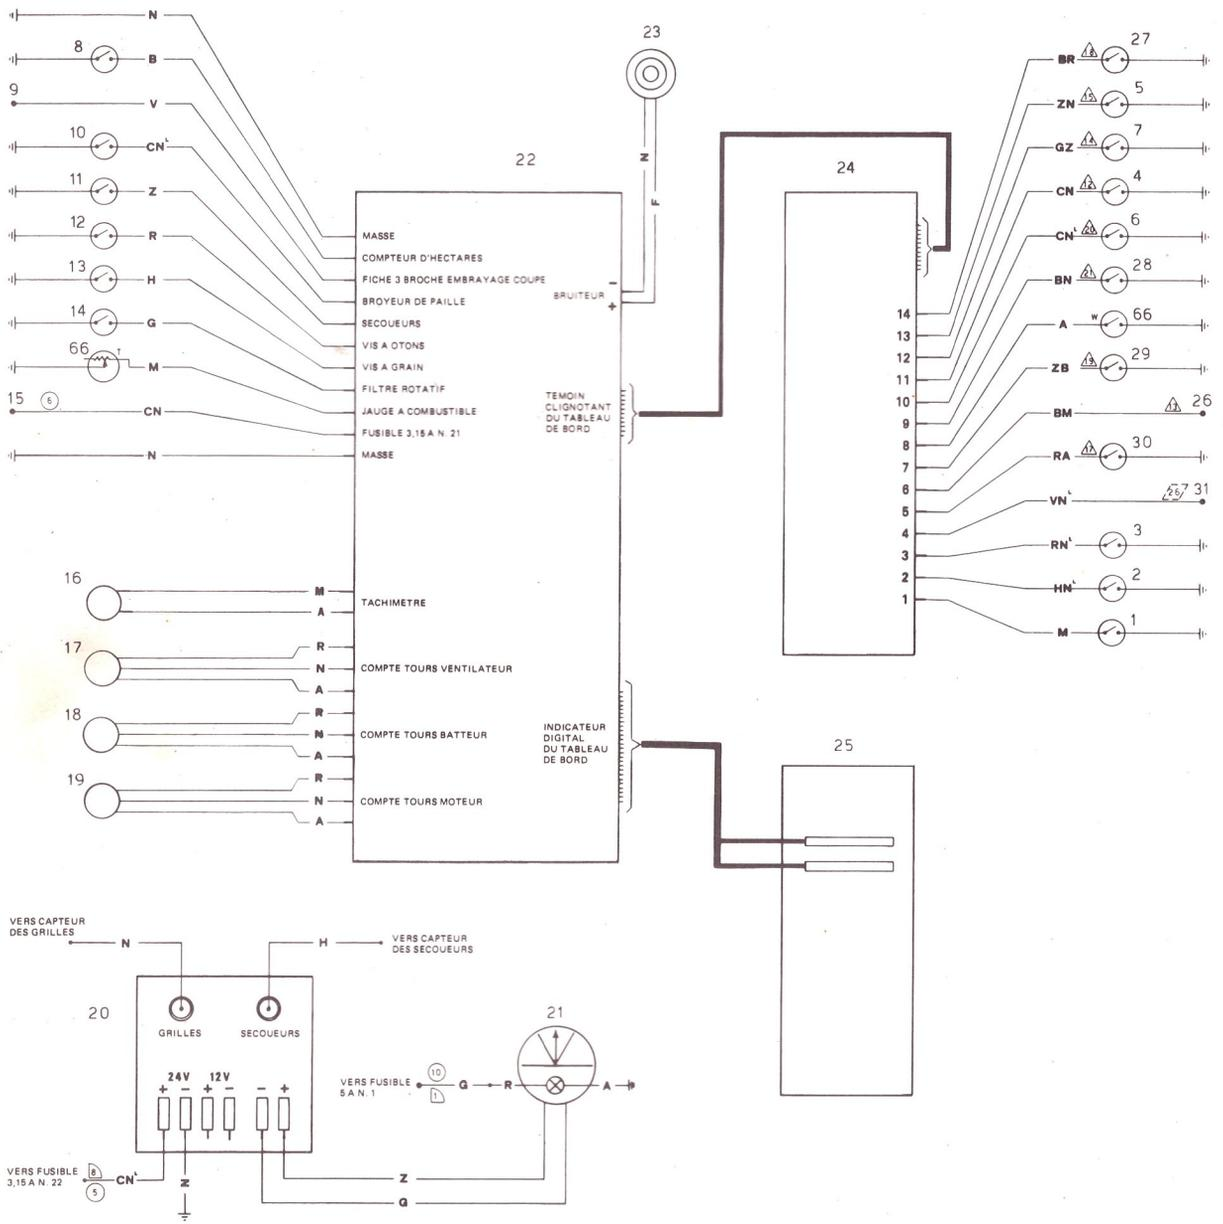

FIG. 70
- circuit des instruments (fig 70)